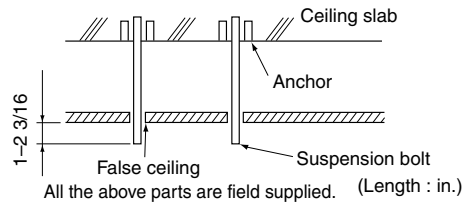

Fig. 9
- (4) Attach the suspension bolts. (Use suspension bolts which are W3/8 or M8-M10 in size.)
- Adjust the distance of the suspension bolts from the ceiling in advance. (Refer to Fig. 9)